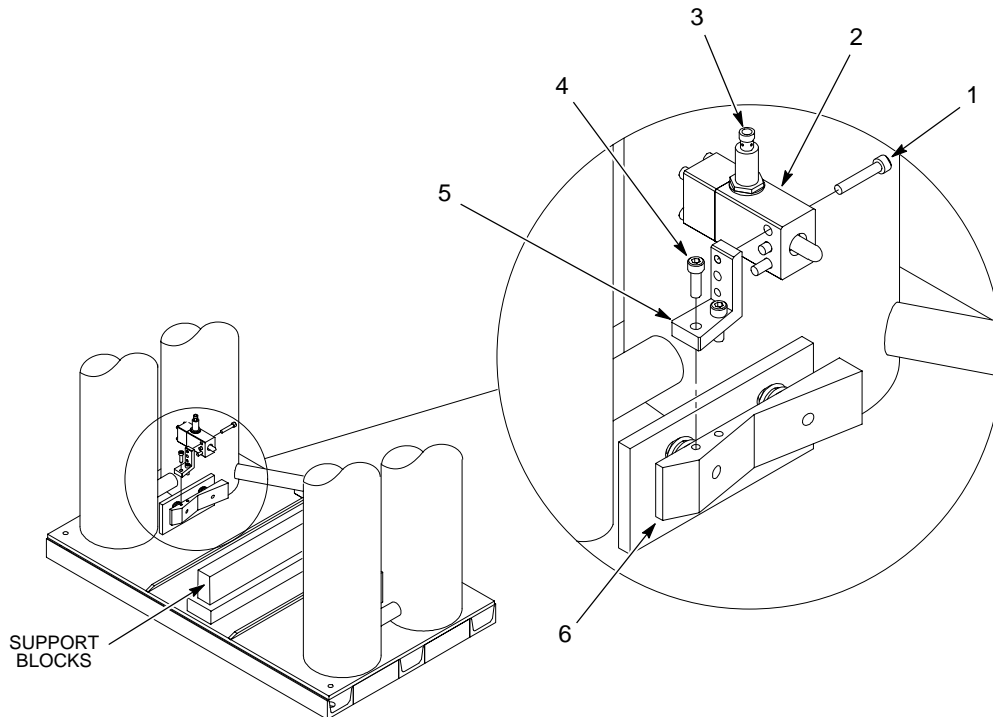

Figure 3 Four-Post Drum Position Sensor
1. See Figure 3. Apply Loctite to the threads of the screws (1). Install the mounting bracket (5) to the drum position sensor (2) using the screws (1). Tighten the screws securely.
2. Apply Loctite to the threads of the screws (4). Install the sensor assembly onto the hold down shoe (6) using the screws. Tighten the screws securely.
3. Connect the cable from the controller to the proximity sensor (3).
If the follower plate or heated platen needs to be lowered and a drum is not positioned on the frame, place support blocks on the frame base as shown in Figure 3 to prevent damage to the drum position sensor.